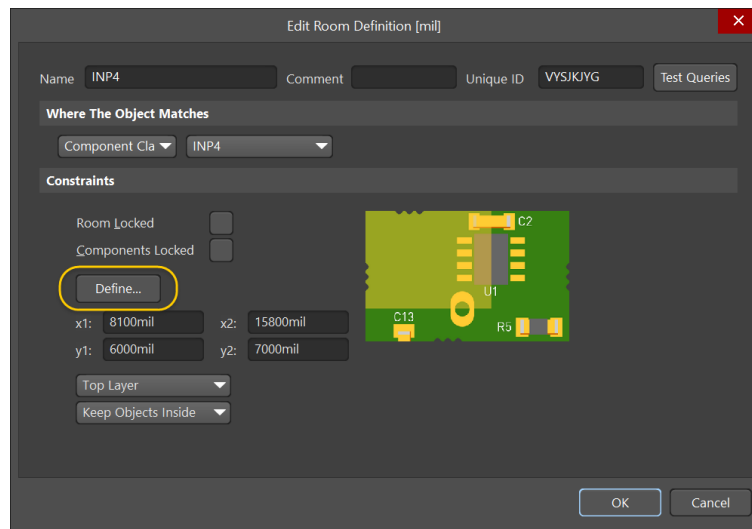

Figure 5. Defining the size of the room
14. Select **Define...** to resize the room as shown in Figure 5.